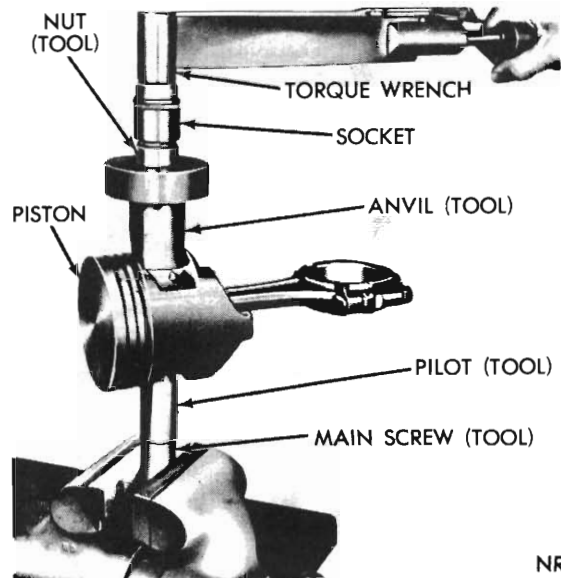

Fig. 42 - Testing fit of piston in connecting rod (Tool E9C50B)
(12) Place assembly in a vice (Fig. 42).
(13) Attach the torque wrench to nut and check torque up to 15 lbs. ft. If the connecting rod moves downward on the piston pin, reject this connecting rod and piston pin combination. Install a